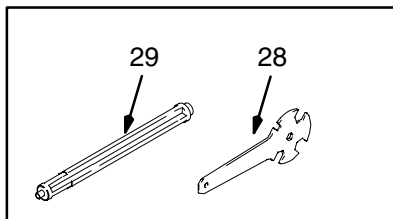
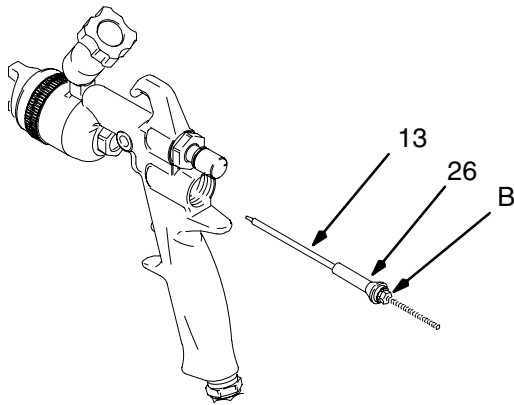

Fig. 21
Fig. 29
- Lightly lubricate the parts indicated in Fig. 21 with lubricant 16232. This item is not included with gun.
5. Remove the fluid adjustment knob (21) and fluid spring (23). See Fig. 21, page 18.
6. Pull the fluid needle (13) out the back of the gun.
7. Remove the screw (11), pin (17), wave washer (18), and trigger (10).
8. Remove the hex nut (9) with the gun tool (28).
9. Remove the spray housing (2a) and adapter (4).
1. Slide the adapter (4) into the spray housing (2a), and install them onto the gun body (1). Align the housing with the slot and lip (A) on the gun body (1). See Fig. 21 page 18.
2. Tighten the hex nut (9) onto the adapter (4) hand-tight, then loosen the nut about one turn so the adapter (4) and spray housing sit loosely in the gun body.
3. Check the fluid needle (13) for damage or excessive wear. Replace needle tip or entire needle if necessary. If replacing needle tip, use low strength thread locker on needle tip threads.
4. Lubricate the outside of the new air valve assembly (26) and place it on the fluid needle (13), against the nut (B). See Fig. 29. This helps align the entrance of the air valve stem into the inside diameter of the u-cup (16) without damaging the u-cup lip.
5. Install the fluid needle (13) and the air valve assembly (26) into the back of the gun.